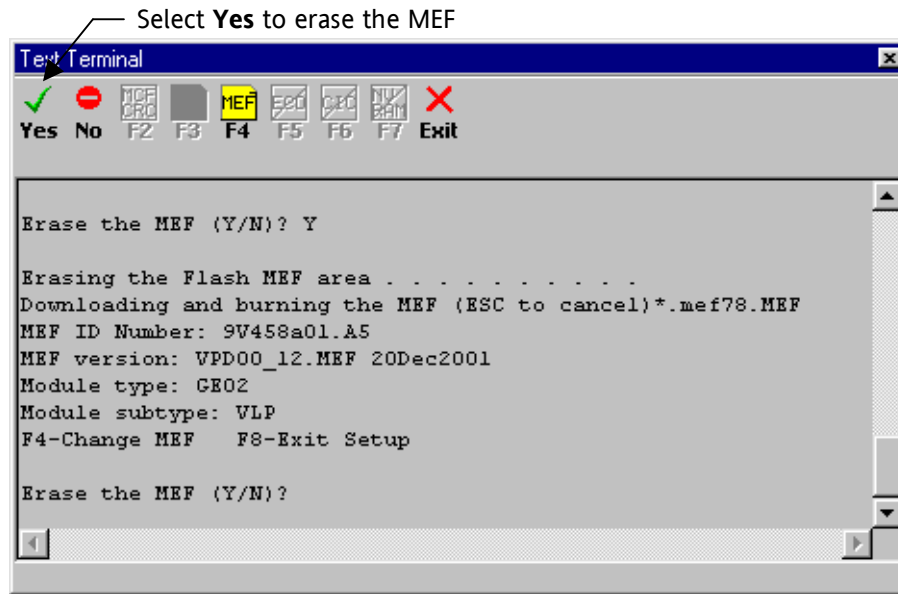

Figure 3-9
7. The prompt “Erase the MEF (Y or N)?” is displayed (figure 3-9). Select the **Yes** button.